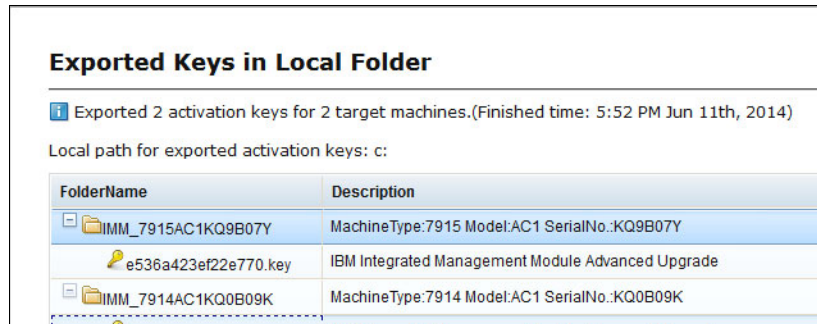

Figure 3-68 Exported keys in local folder
- You can view the keys in the directory in which they were saved (in our example, the C: drive), as shown in Figure 3-68.